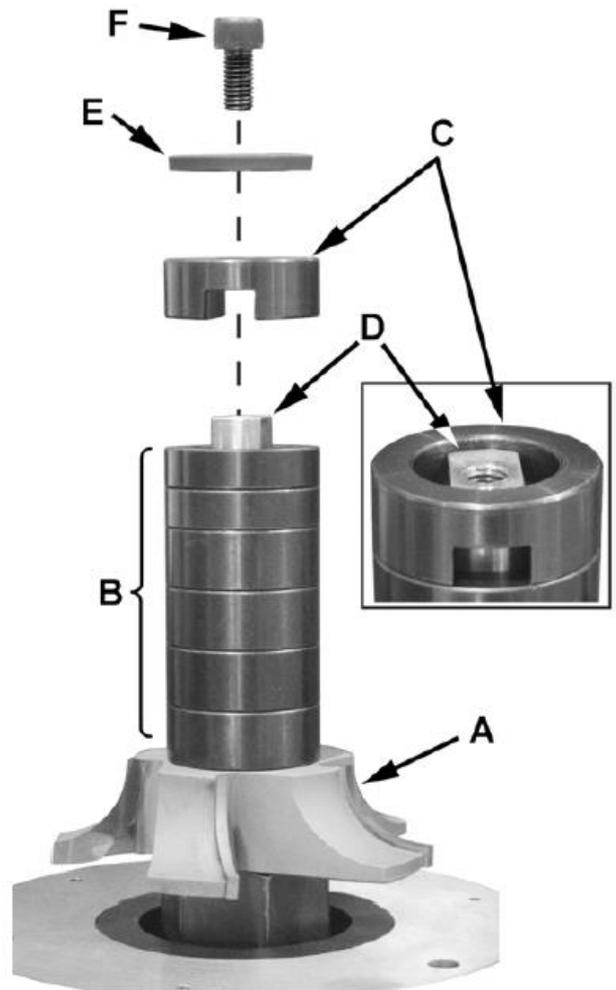

Fig. 15
2. Using an 8mm hex wrench (provided), remove the socket head cap screw (F) Fig. 15.
3. Remove the washer (E), keyed collar (C) and all or as many collars (B) as necessary.
4. Place the shaper cutter (A) (not included) onto the spindle, oriented in the proper direction.
5. Place the collars (B) and keyed collar (C) onto the spindle.
**Note:** Collars come in several widths and the stacked selection (B) must be such that the top of the keyed collar (C) sits slightly above the top of the spindle (D). This will ensure sufficient pressure to properly secure the shaper cutter (A) when installation is complete.
6. Replace the washer (E) and socket head cap screw (F). Tighten screw with the 8mm hex wrench provided.